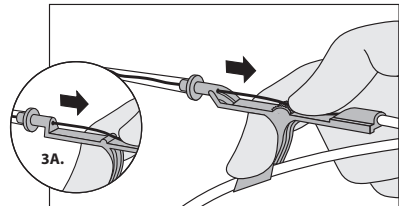

Figure 3
- Using thumb, retract "J" (refer to Figure 3 GlideWheel or 3A Standard Advancer depending on which Arrow Advancer is provided).